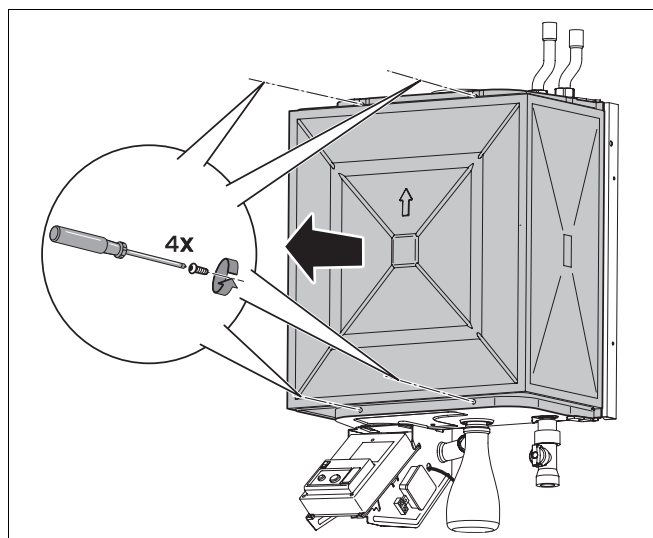

Fig. 69 Unscrew ventilation cover
- Loosen the 4 crosshead screws on the ventilation cover (fig. 69).